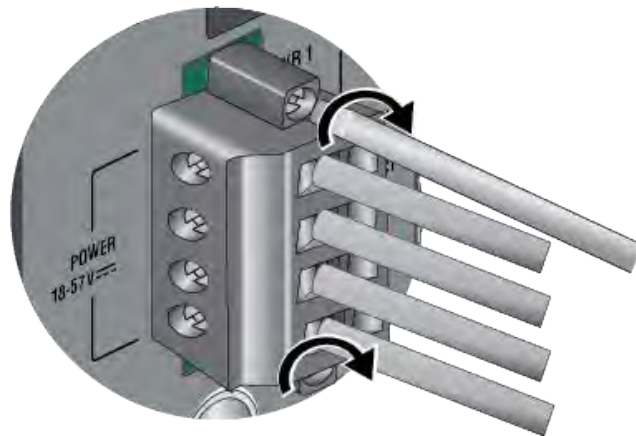

Figure 68. Tightening the Captive Screws to Secure the POWER Plug
3. Tighten the two captive screws to secure the POWER plug to the switch. Allied Telesis recommends tightening the screws to 5.0 in-lbs (0.55 Nm). Refer to Figure 68.